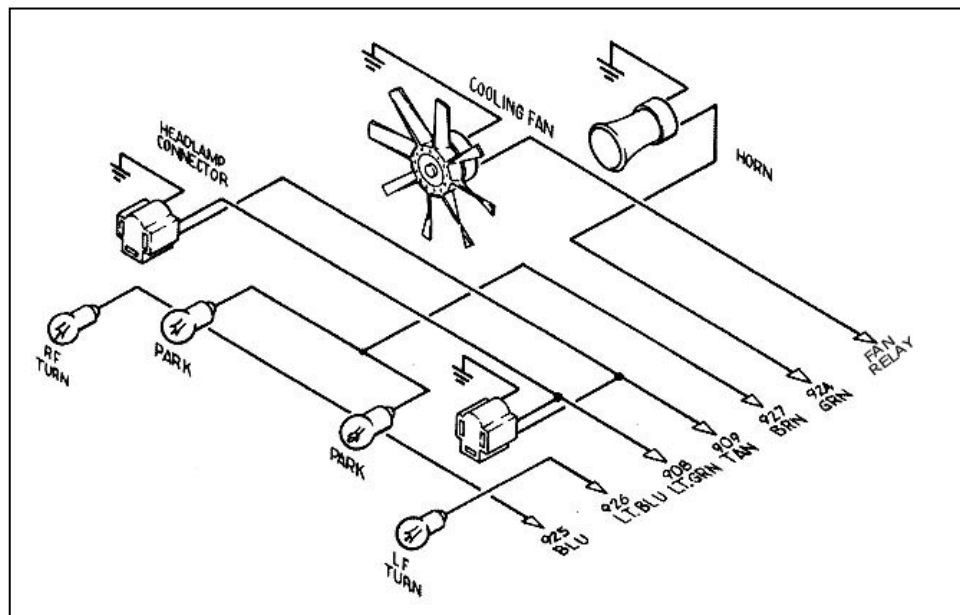

Figure 10-4B HEADLIGHT SECTION A Wiring
10.5 HEADLIGHT SECTION A. See Figure 10-4B.
Note: The wire going to the fan in Figure 10-4B will be coming from the fan relay output terminal. Wire #901 (gry/wht) from the ACCESSORY SECTION SWITCHES is an activation wire for the fan relay.